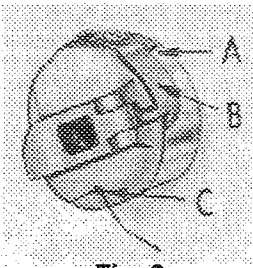

Fig. 8
Place the bobbin in the bobbin case. In one continuous motion, with thumb and forefinger of right hand, draw the bobbin thread through diagonal slot in bobbin case (A, Fig. 8) under the tension spring (B) and into self threading slot (C) on case. Note direction of the rotation of the bobbin as the end of the thread is pulled when looking at the bobbin case from the back. The bobbin should rotate counterclockwise.